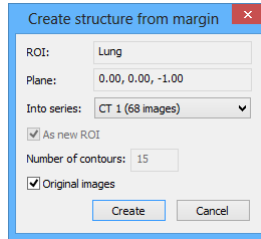

Figure 272 – Create structure from margin dialog
- To create a new ROI from the generated margin, click the **Make new ROI...** button. The **Create structure from margin** dialog (see Figure 272) is then displayed in which you proceed as follows: